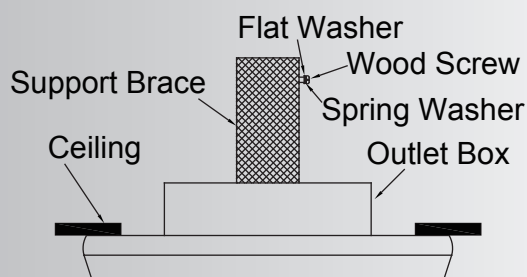

Fig. 10
Step 1. Drive a wood screw and washers into the side of the brace that holds the outlet box. Leave 3mm (1/8") of space between the support brace and the washer. (Fig. 10)